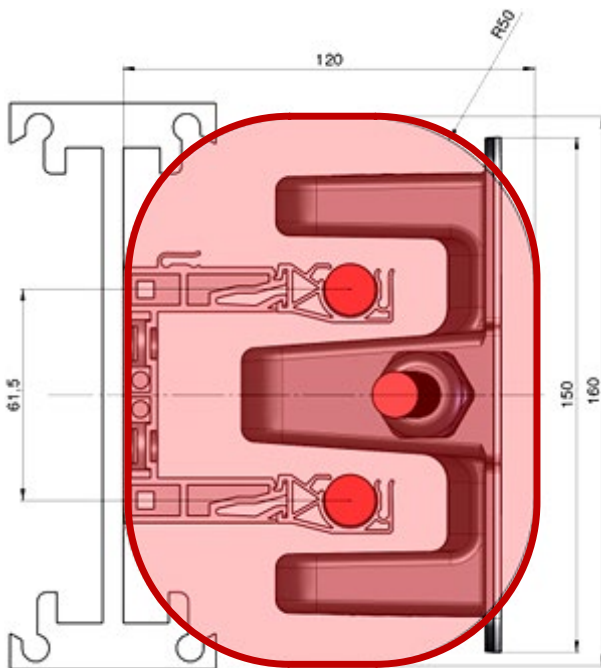

Figure 4.4: Area free of ferromagnetic material around the pickup
To ensure the effectiveness of the System it is very important to have an area free of ferromagnetic material around the pickup too. This means that the “iron-free” zone defined below must be observed over the entire length of the vehicle and may not contain frame of the vehicle, motors, sensors and actuators. Around the pickup must be an area that is free of ferromagnetic material too. In Figure 4.4 this area is shown.
- Any metal components (screws, nuts and other accessories) have to have a minimum distance of 16 mm to Cables if they are installed in a feed section (cables bundled close together)! In the track area even bigger distances have to be obeyed! For exact values see Figure 4.4.